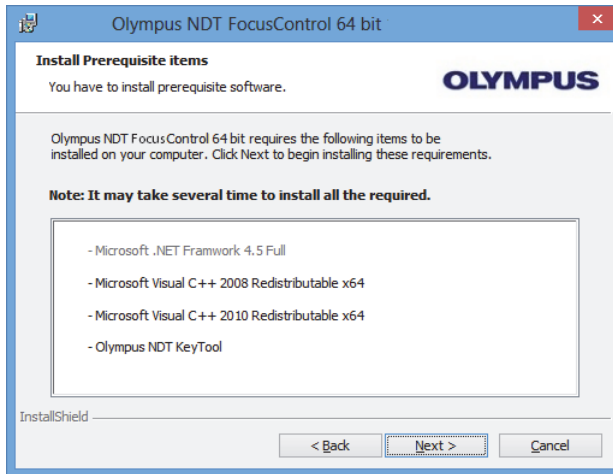

Figure 1-6 The Install Prerequisite Items page
4. Depending on your software version and operating system, click **Next** to install any necessary prerequisite software (see Figure 1-6 on page 20).